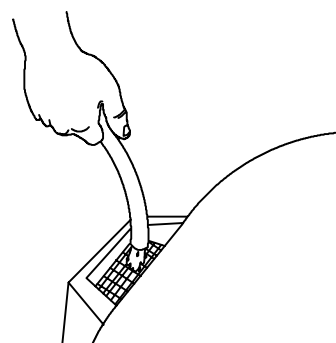

FIG. 19
- Remove the fill-port cover at the front of the machine and fill solution tank to the opening screen with clean water, 60°C (140°F) maximum (Figure 19).